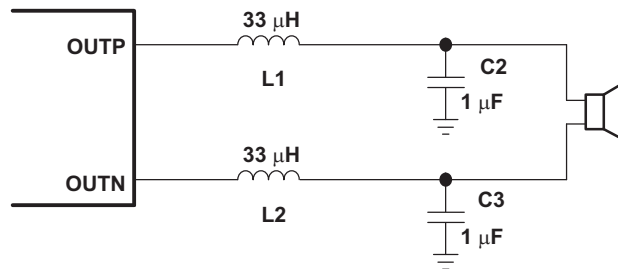
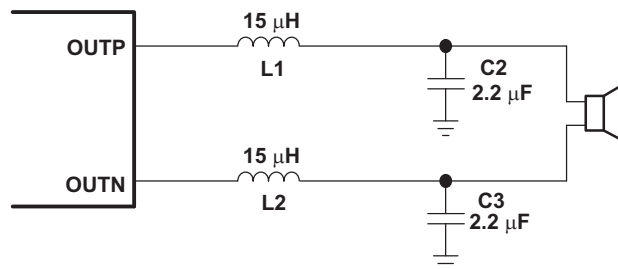

Figure 25. Typical LC Output Filter, Cutoff Frequency of 28 kHz, Speaker Impedance = 8  $\Omega$
Figure 26. Typical LC Output Filter, Cutoff Frequency of 28 kHz, Speaker Impedance = 4  $\Omega$
Using the LC filter in Figure 25, the TPA3100D2 EMI EVM passed the FCC Part 15 Class B radiated emissions with 21-inch speaker wires. Quasi-peak measurements were taken for the four standard test configurations, and the TPA3100D2 EVM passed with at least 17-dB margin. A plot of the peak measurement for the horizontal rear configuration is shown in Figure 28.
- Output filter—The ferrite EMI filter (Figure 27) should be placed as close to the output terminals as possible for the best EMI performance. The LC filter (Figure 25 and Figure 26) should be placed close to the outputs. The capacitors used in both the ferrite and LC filters should be grounded to power ground. If both filters are used, the LC filter should be placed first, following the outputs.